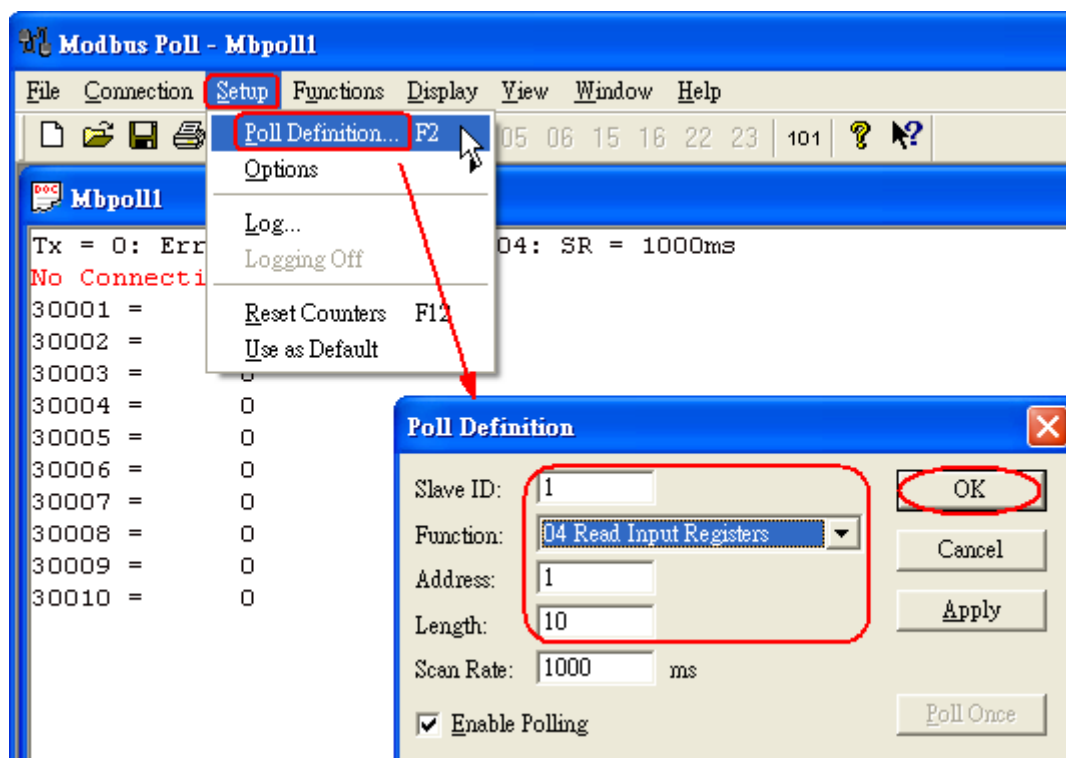

Figure 3-10 Modbus Parameters of “Modbus Poll” tool
- [2] The below MB/RTU client will use the "**Modbus Poll**" tool to show the CMD(3) data of HART device by polling Modbus address 0 ~ 9.
- <2> Set the "**Modbus**" parameters like Figure 3-10.